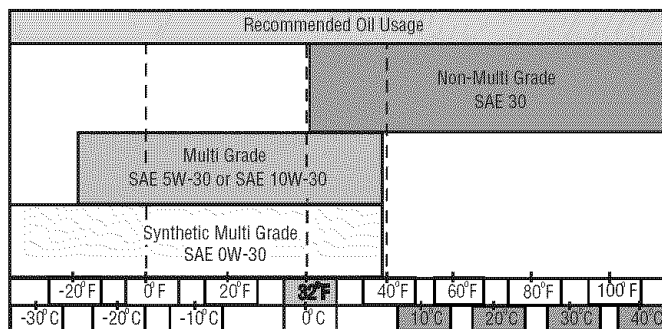

Figure 17
**NOTE:** Although multi-viscosity oils (5W30, 10W30, etc.) improve starting in cold weather, they could also result in higher oil consumption when used above 32° F. Check your snow thrower's engine oil level more frequently to avoid possible engine damage from running low on oil. See the Viscosity Chart in Figure 17.